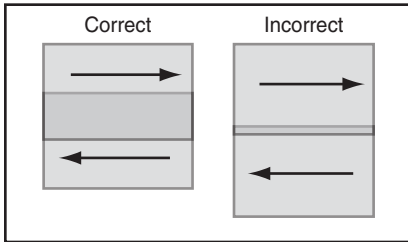

Figure 5. Overlapping technique.
- Maintain an even speed when spraying and overlap each stroke by 50%. This will ensure even coverage, as shown in on the left of **Figure 5**. Overlapping less than 50%, as shown on the right, may lead to missed spots or streaky results.